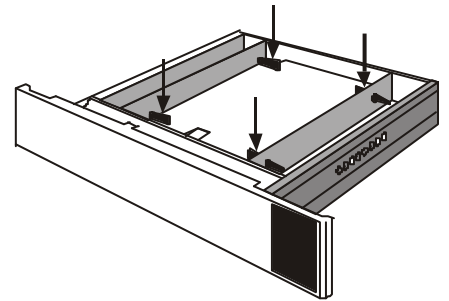

Fig. 8 Removing Transportation Inserts
To repack TowerFeed, follow the above steps in reverse. Be sure that all accessories including manuals and diskettes are packed in the box. Remove the trays and insert the transportation inserts as shown in Fig. 8, page 7 (It is important to secure the trays to avoid possible shipping damage). Place items according to Fig. 5. Ensure TowerFeed is correctly seated and cushioned. Insert the four blue shock absorbers and close the container.
- Pull out, lift upwards and remove the trays from TowerFeed so as to remove the transportation inserts (Fig. 8). There are two at each side (keep the inserts for reshipment).